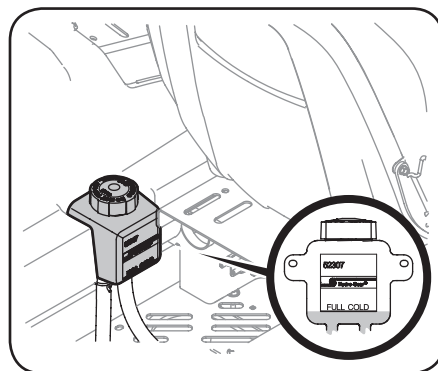

Figure 4-6
1. Clean the reservoir cap and the area around the cap to prevent debris from contaminating the transmission oil. See Figure 4-6.
2. Turn the reservoir cap counter-clockwise to remove, then check the oil level in the reservoir. Oil should be visible at the bottom of the cup, but the oil level must NOT be above the "FULL COLD" line. See Figure 4-6. DO NOT FILL THE RESERVOIR.